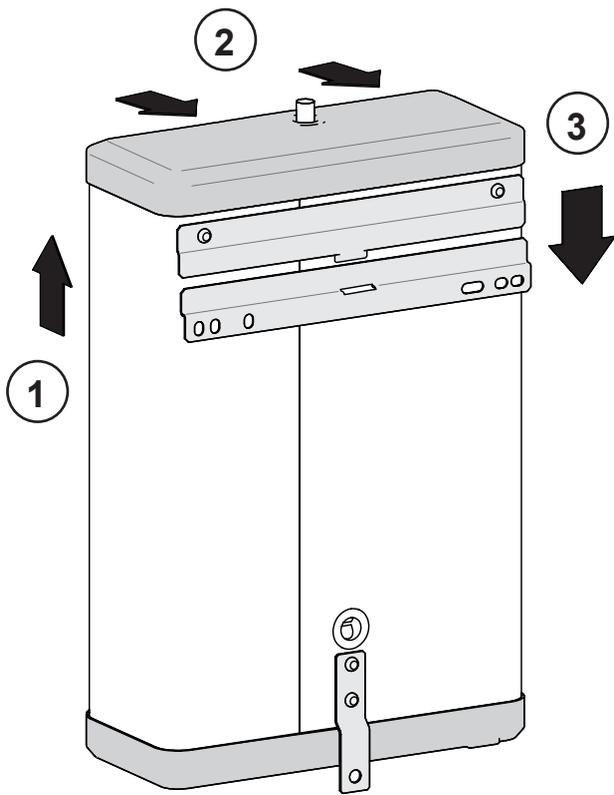

Figure 12: Bracket lifting procedure
- ▶ Refer to table 1, page 6 for the weight of the water heater empty, using an appropriate lifting method lift the water heater up and position the bottom edge of the water heater bracket over the top edge of the wall bracket, position the unit towards the wall and then lower, see figure 12, page 16.